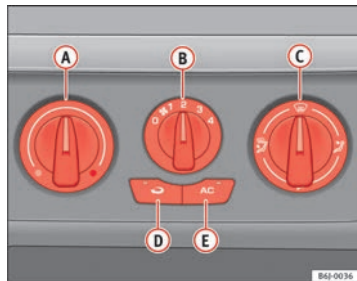

Fig. 102 Air conditioning controls on the dash panel
- Using the controls ⇒ fig. 102 **A** and **C** and with the switch **B** you can adjust the temperature, the air distribution and the blower speed.